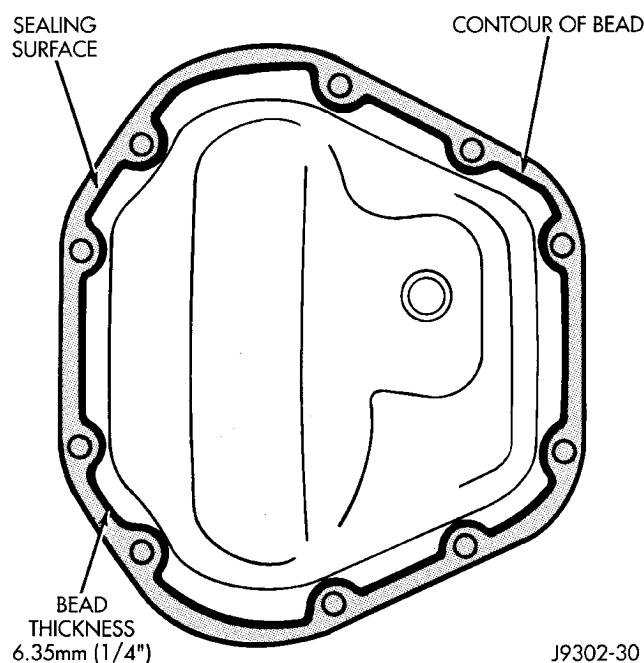

Fig. 51 Typical Housing Cover With Sealant
(1) Scrape the residual sealant from the housing and cover mating surfaces. Clean the mating surfaces with mineral spirits. Apply a bead of Mopar® Silicone Rubber Sealant, or equivalent, on the housing cover (Fig. 51).